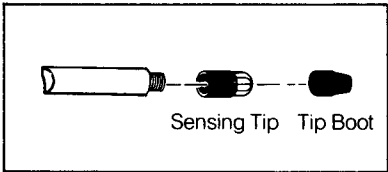

FIG. 2
- B. When changing tips **always be sure that the instrument is switched off.** To change the sensing tip (see Fig 2):